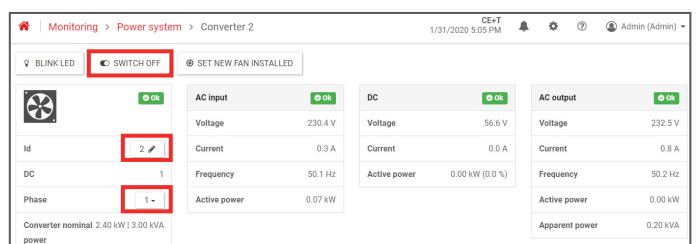

Figure 9: Module configuration
- Click the first module in the list and **switch OFF the module output** by clicking “SWITCH OFF” button. Similarly, switch OFF all the remaining modules in the list. (Figure 9)
- Again, go to Power System page, search the phase 1 module in the list, set the module ID and assign the phase 1. (Figure 9)
- Switch ON all the modules output by clicking “SWITCH ON” button. (Figure 9)